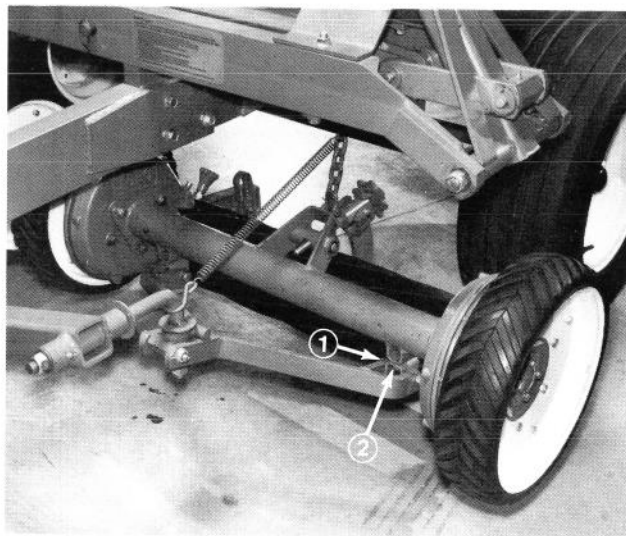

Figure 16
1. Align holes in drawbar with brackets on mower cross-tubes. Secure each side with 1/2-13 x 3-1/2" capscrew, spacer tube and 1/2-13 locknut (Fig. 16).